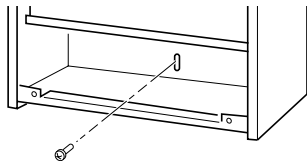

Figure 12 - Installing Bottom Mounting Screw
1. Locate bottom mounting hole. This hole is near bottom on back panel of heater (see Figure 12, page 9).